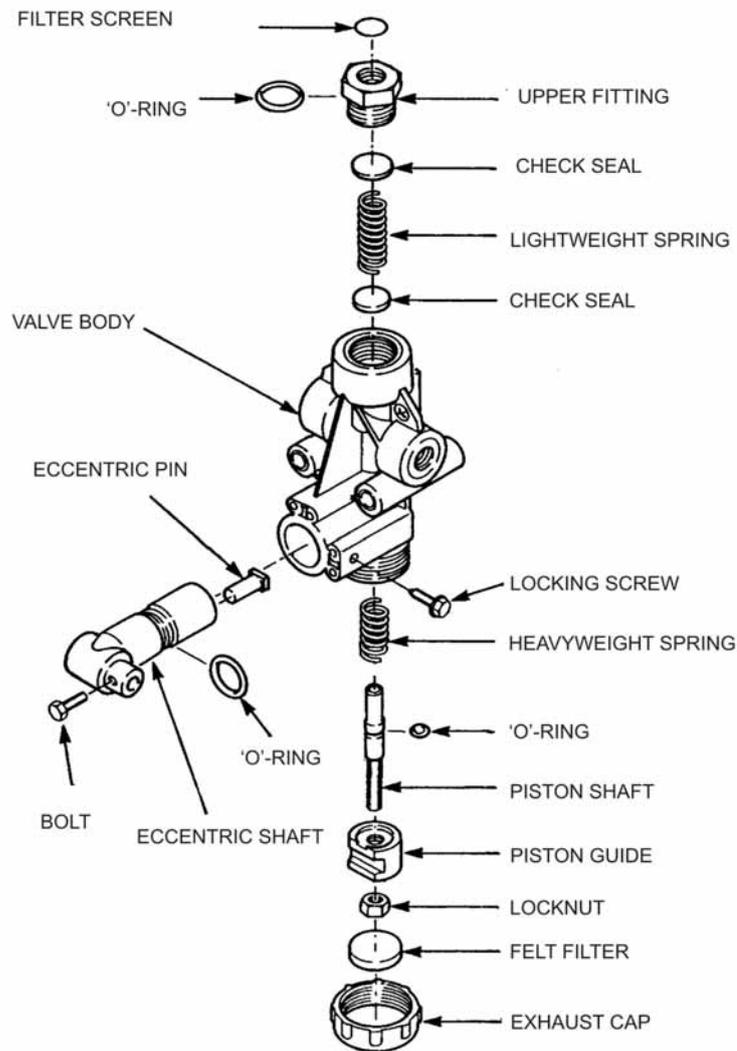

**Figure 171 Air Spring Suspension System – Air Supply**
**272.** Air supply for the air springs is obtained from the reserve air tank, which is attached to the right-hand chassis rail at the rear of the vehicle. Air is supplied to the air springs via a Pressure Protection Valve (PPV) located at the rear of the air tank (Figure 171). Air from the valve flows through Synflex tubing to a maxitorque air filter, which filters out any water in the supply. From the filter, air is routed to the left and right-hand levelling valves, the inversion valves and the air springs. A dump valve is located at the lower right-hand side of the dash that is used to control the deflation of the air springs via the inversion valves. Shut-off valves are located at each air spring that can be used to isolate any air spring that may be punctured.